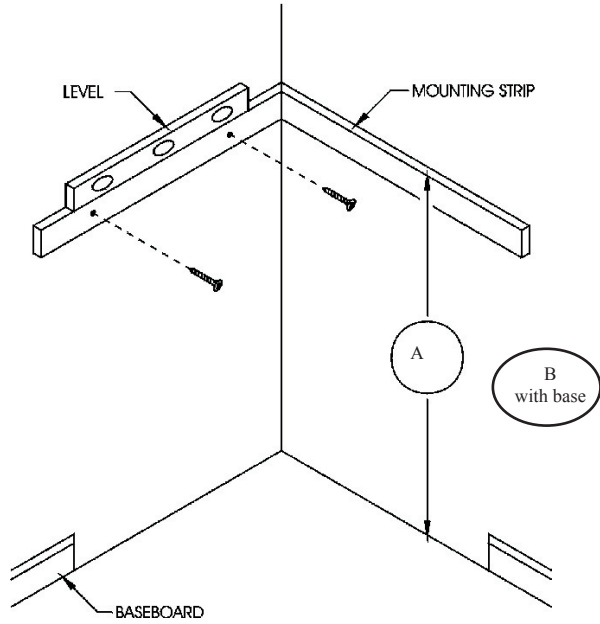

Figure 5
6. Attach mounting strips in corner with 2-1/2" screws. If necessary, wall anchors may be used. See chart from floor to top of mounting strip dimension. Figure 5